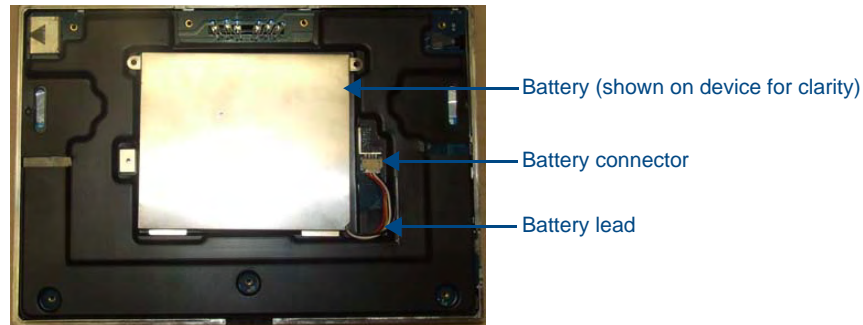

FIG. 103 Battery and battery connector placement
7. Carefully remove the back of the device and detach the battery lead at the battery connector (FIG. 103). This will allow the back cover to be detached from the device.